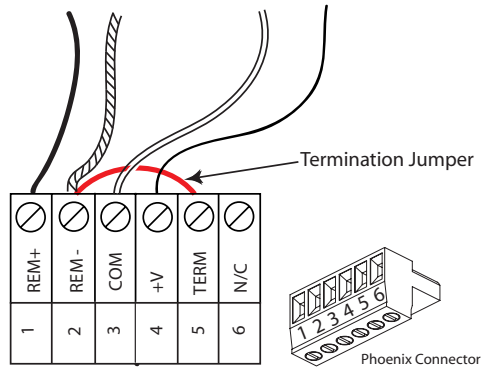

Figure 18- Luma-Net Termination Jumper
- Step 1:** Connect leads per wiring diagram as illustrated in Figure 18.